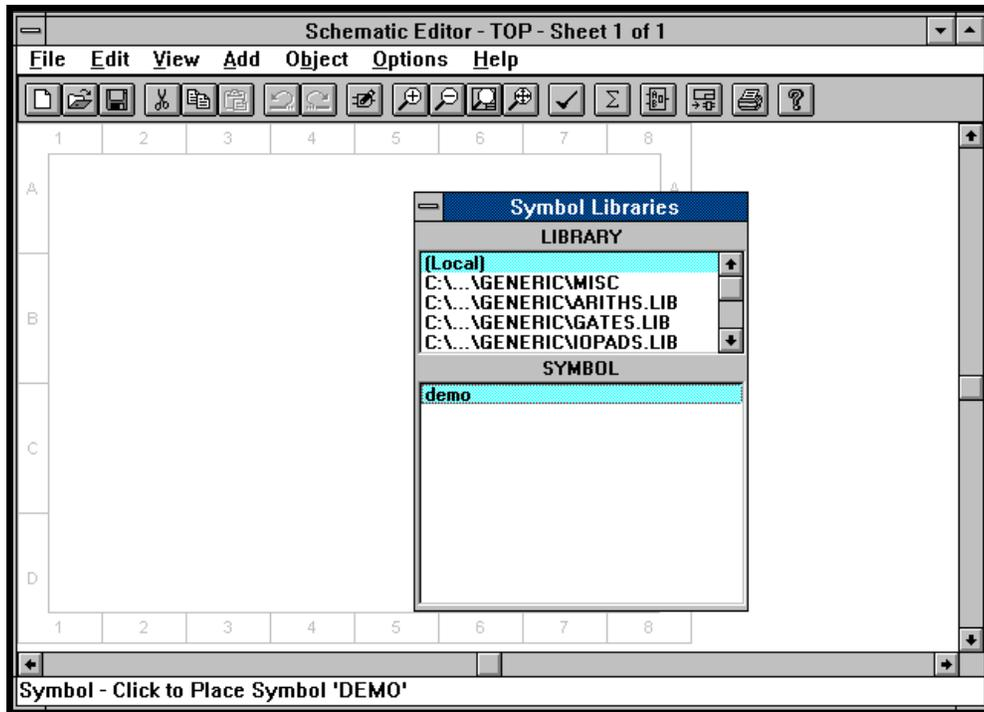

Figure 1-21. Schematic Editor with Symbol Libraries Dialog box
41. Add the symbol for the schematic you created in Section 1. Select **Add** ⇒ **Symbol**. The Symbol Libraries dialog box appears with the Local library selected. Notice the demo symbol in the lower text box (Figure 1-21). Select the demo symbol and place it on your schematic.